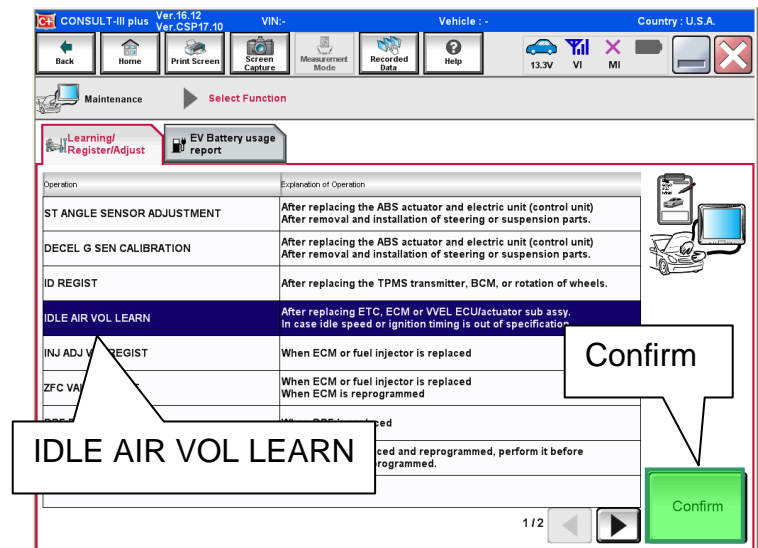

Figure 2
- c. In the CIII plus “Maintenance mode”, select “IDLE AIR VOL LEARN” and then “Confirm”. See Figure 2.